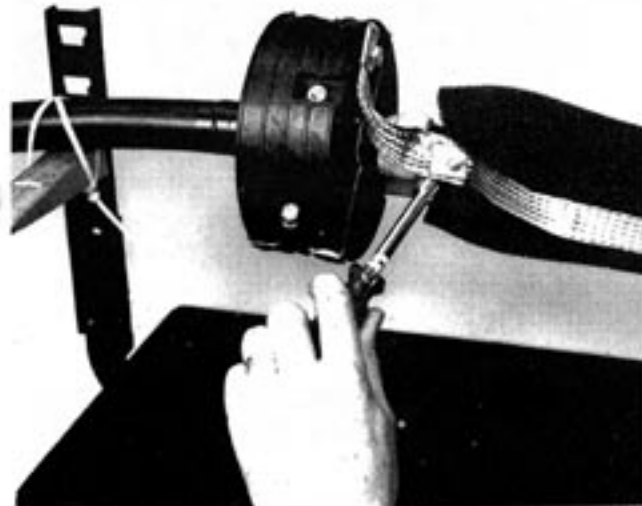

Figure 30 — Insertion of Bonding Braid into Bonding Clip—End Plate Interior
10.01 If the cable shield is to be externally grounded, continue the bonding braid through the shield connector and insert the end of braid through the shield connector and insert the end of braid to the bonding clip. Bolt the clip and the braid to the bonding insert. Figure 30.